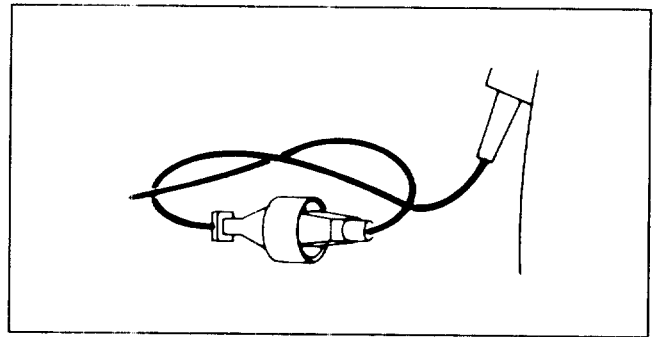

Figure 6
10. Properly connect extension cord to power supply cord to prevent disconnect or of the cords (Fig. 6).
1. Secure the power supply cord and a suitable extension cord as shown in Figure 6.